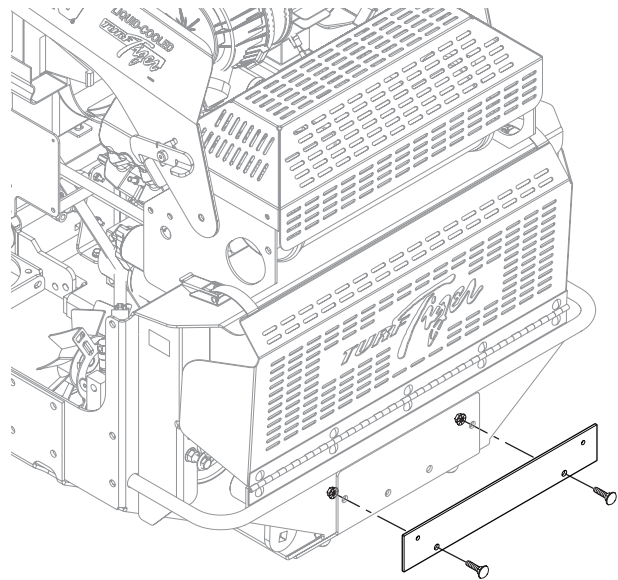

**Figure 2-10. Hopper Mounting Hardware Install**
5. For STC, STCII, SCZ and SCZII Models, remove the rear skid plate mounting hardware from the outside two holes. See Figure 2-10 . For STT Models, proceed to step 7.
6. Install the mounting pins and spacers on to the rear of the machine as shown. Secure using the hardware provided, use "Blue" loctite on the bolts. See Figure 2-10.